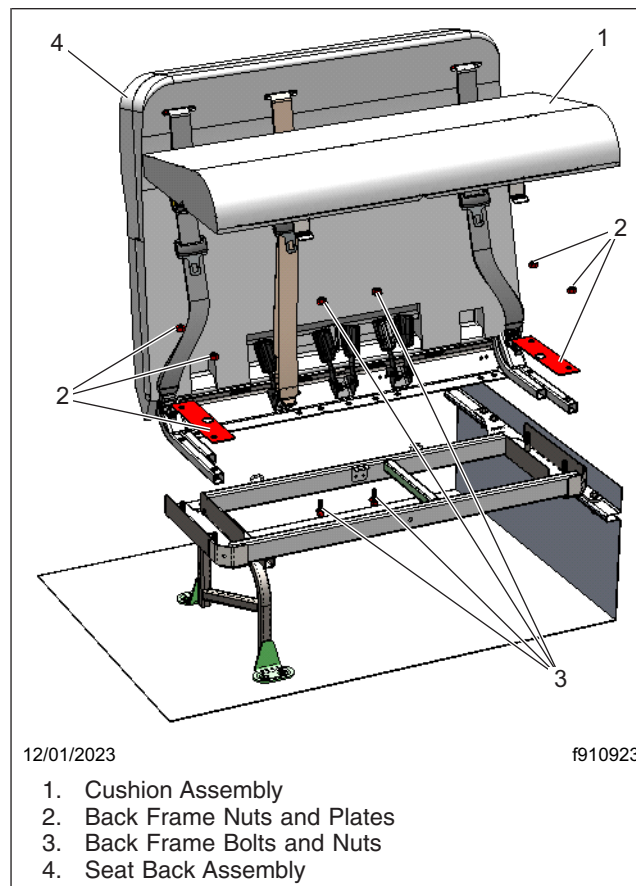

Fig. 1, Cushion Assembly Removal
4. Remove cushion assembly. See Fig. 1.
11. Install the seat back assembly. See Fig. 1. (on page 6).